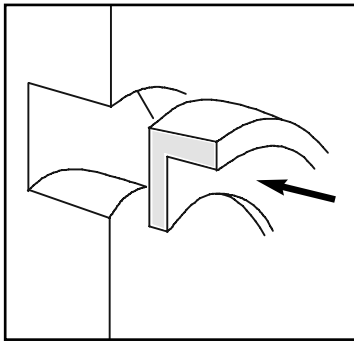

Figure 15 Cup Rubber Insertion in Rotor
c) To fit seal seat to rotor (56 & 57), first insert cup rubber (83) into the rotor (do not lubricate), ensure alignment with drive pin. (see figure 15). If PTFE trim is fitted, insert the rubber washer first followed by the PTFE sleeve. Note that the sleeve is slightly tapered and will be easier to fit if the narrow side is inserted first. Then lubricate outside diameter of seal seat. (do not use mineral-oil based lubricants on EPDM joints) Align drive pin with one of the three slots in seal seat. Engage the leading edge of the seal seat into the cup rubber or PTFE sleeve. Push down evenly until seal seat rests squarely on bottom of seal bore in rotor. Do not damage seat face. When correctly fitted,
- To re-assemble, place O-ring (93) in double seal housing (95), lubricate outside of static seat with a suitable lubricant compatible with the barrier fluid. Align slots in seal face with dogs of drive plate (81) in seal housing (see figure 15) and push seat fully in. The seat should slide freely against the plate (81) and wave spring (82).
- If fitting double seals to a pump for the first time, e.g. retrofitting a single seal pump, gently tap or press the support ring (92) square up against the shoulder on each shaft.
- Fit O-ring (93) to rotary seal seat (92). Gently push seal seat squarely on to shaft, aligning hole in rear of seal face with pin on the support ring.